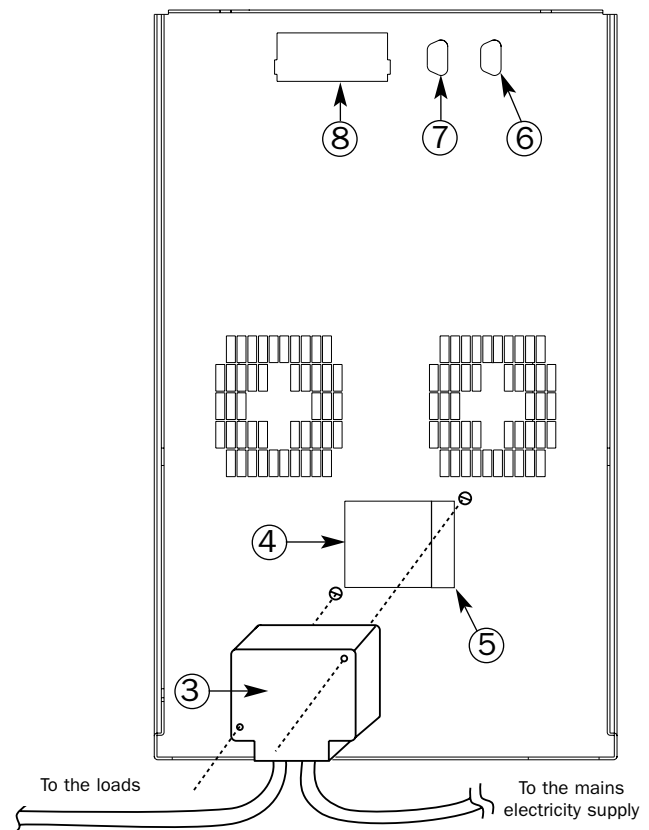

Fig. 3 Electrical Connections
4. Put the Input-Output connector into the plug [4] located on the rear of the UPS, and secure to its case using the screws supplied (see fig. 3).
5. Secure the plastic housing to the rear of the UPS the screws supplied (see fig. 3).